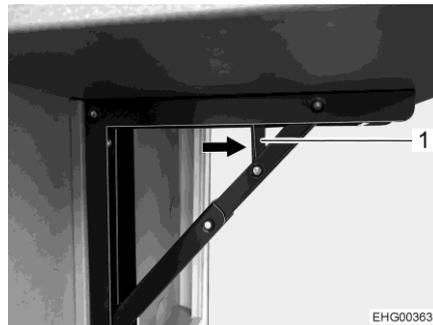

Fig. 42 Release
- Press release (Fig. 42,1) in the direction indicated.